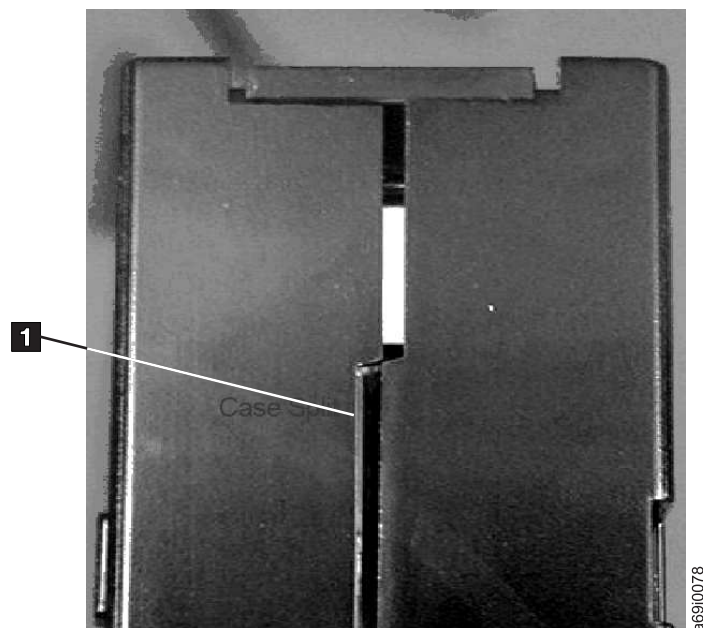
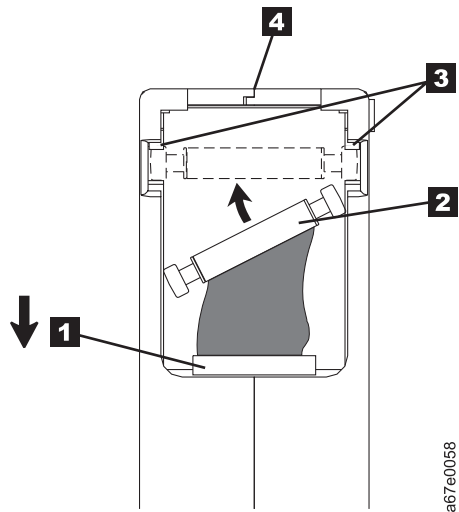

Figure 17. Checking for gaps in the seams of a cartridge
Figure 19. Placing the dislodged leader pin into the correct position. The cartridge door is open to show the leader pin.
- Inspect the rear of the cartridge (the part that loads first into the tape load compartment) and ensure that there are no gaps in the seam of the cartridge case (see **1** in Figure 17 and **4** in Figure 19 on page 48). If there are gaps in the seam (see Figure 17), the leader pin might be dislodged. Go to “Repositioning or reattaching a leader pin” on page 47.
Split cartridge case. See Figure 17 on page 46.
1. Slide open the cartridge door ( **1** in Figure 19) and locate the leader pin ( **2** (you might need to shake the cartridge gently to roll the pin toward the door).